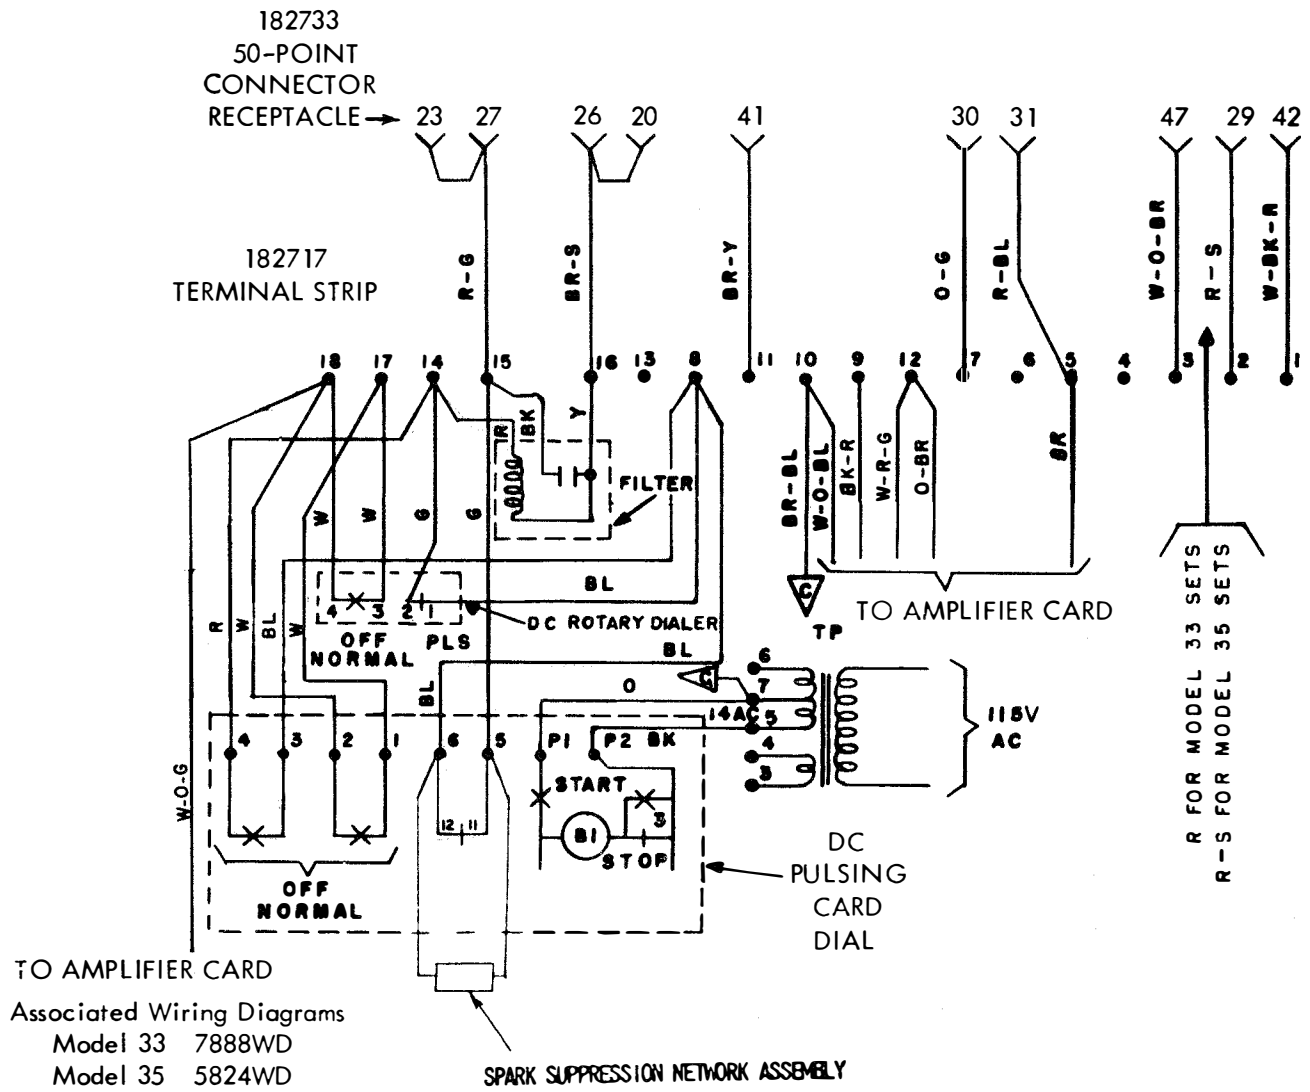

FIGURE 1
2.04 For installation information, see Figures 1 and 2.
- 2.09 Attach cable assembly 182698 and 334167 spark suppression network to the card dialer as shown on Figure 1. Route the cable along the right side of the call control unit to the transformer.
- 2.10 Make the connections for the card dial and rotary dial to the terminal strip as shown on Figure 1.